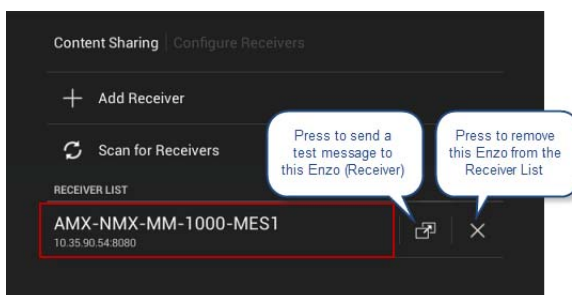

FIG. 39 RECEIVER LIST - Send Message icon
- Press the back button in the G5 Menu Bar to return to the main Content Sharing page. The Enzo receiver should now appear in the *RECEIVER LIST* (FIG. 39):
3. Press **OK** to save changes and close the *Configure Receiver* window and on-screen keyboard. The Enzo receiver should now appear in the *RECEIVER LIST* (FIG. 39):